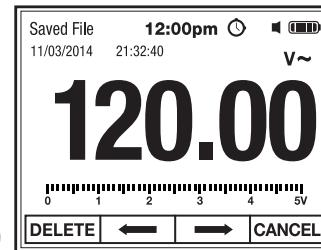

Fig. 19
4. Use the F2 \leftarrow and F3 \rightarrow soft keys (Fig. 19) to select other Saved Files as shown in Step 2.
5. Press the F1 DELETE soft key to delete Saved File (Fig. 19).
6. Press the F4 CANCEL soft key to return to Measurements without deleting (Fig. 19).